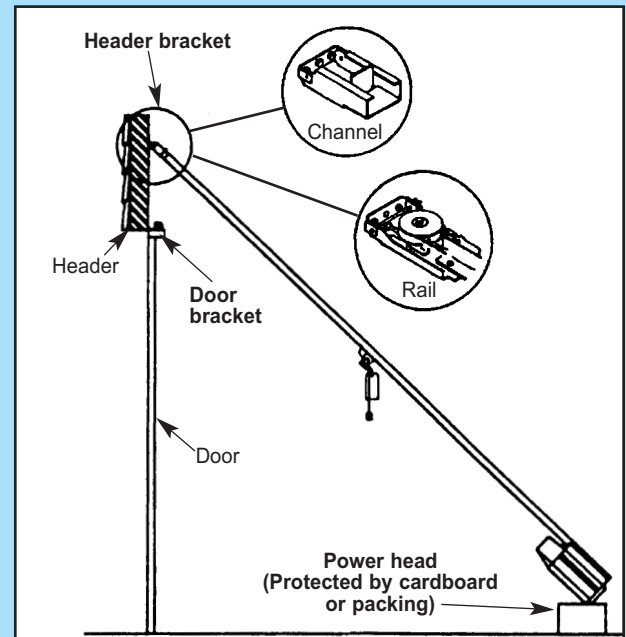

Fig. 2-13
7. Attach channel/rail assembly to header bracket (Fig. 2-13).